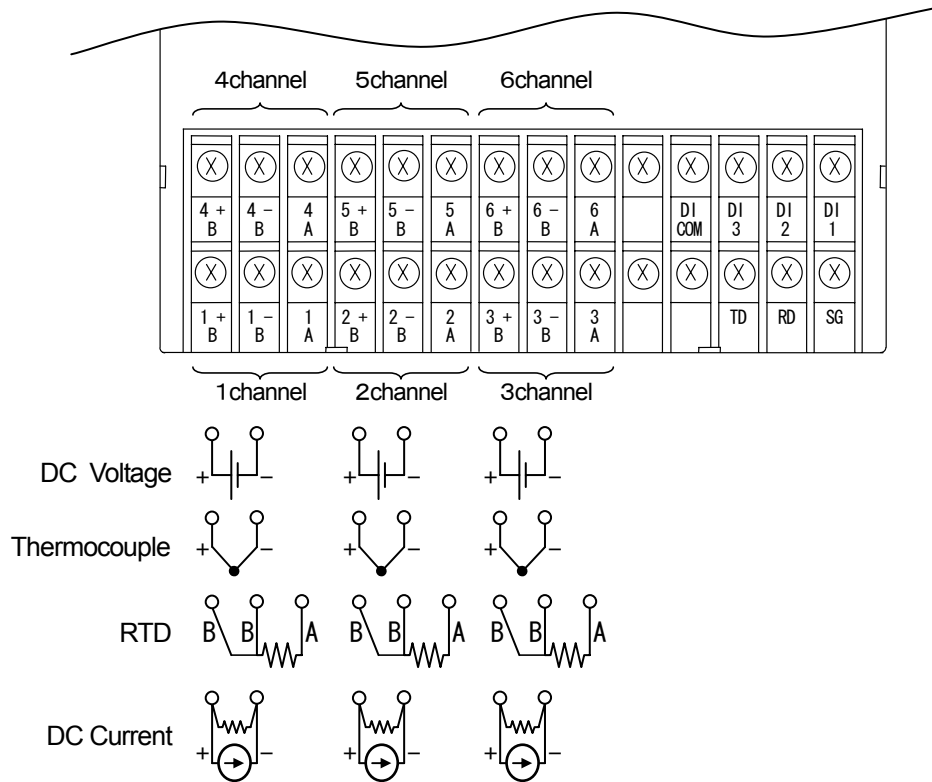
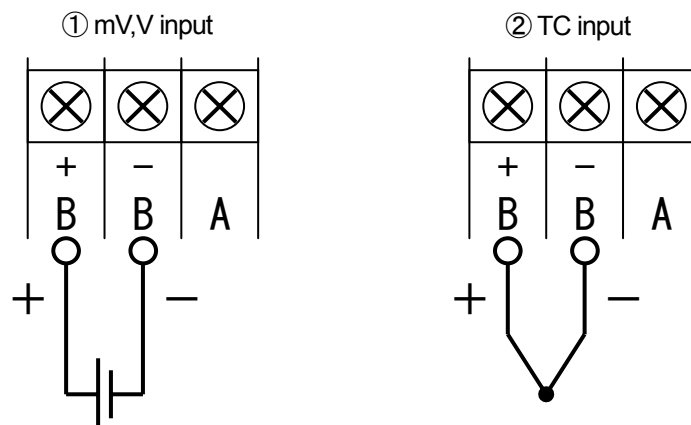
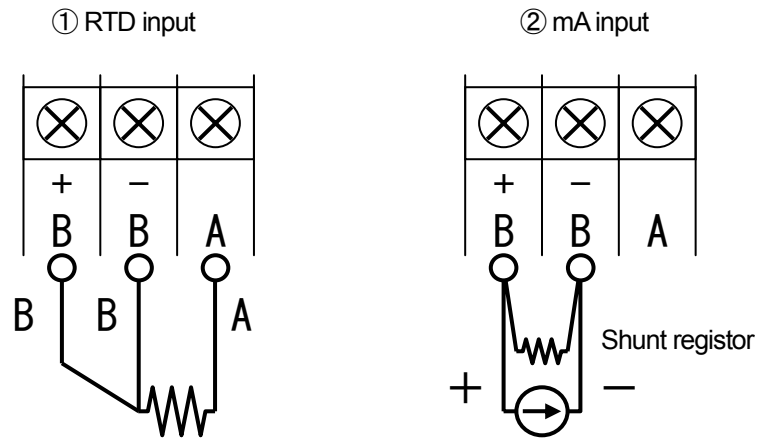

Fig. 4.3 Input Wiring
Fig. 4.4 Input Wiring ( mV, V, TC )
Fig. 4.5 Input Wiring ( RTD,mA )
- 2) Wire the input lines refer to Fig. 4.3, Fig. 4.4(Page 18) and Fig. 4.5.(Page 19)